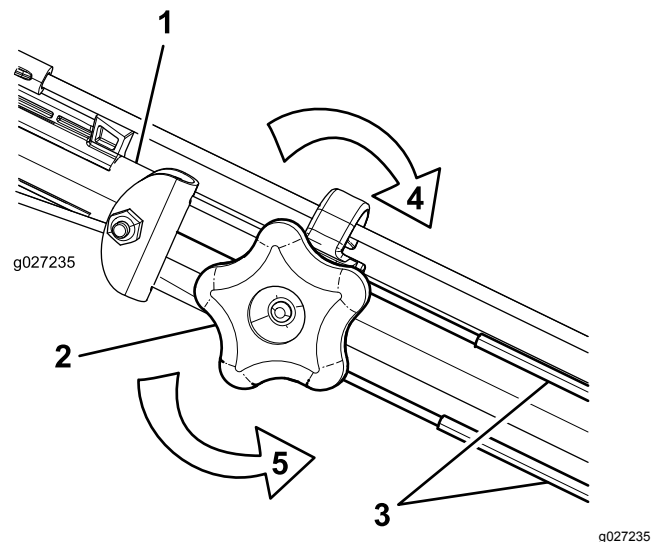

Figure 23
2. Adjust the tension on the cable (Figure 23) by pulling it back or pushing it forward and holding that position.
1. Turn the adjustment knob counterclockwise to loosen the cable adjustment (Figure 23).